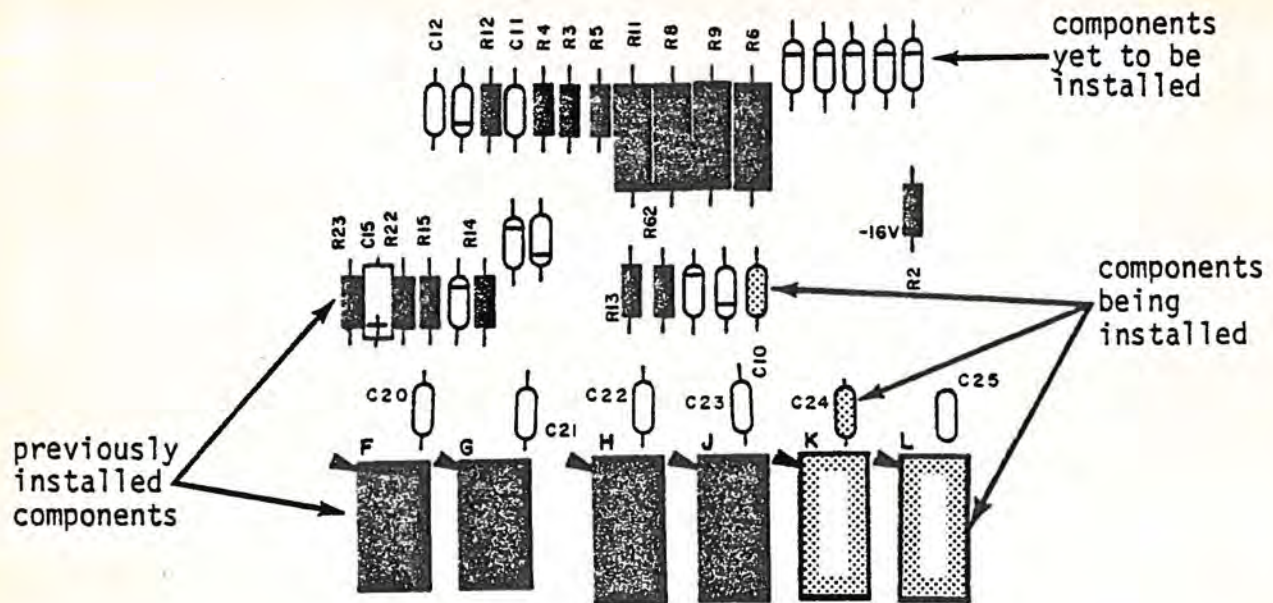

Figure 5-1 Typical Silk Screen
This manual includes two aids to help organize the assembly process: (1) boxed off parts identification lists in boxes with spaces provided to check off components as they are installed; (2) reproductions of board silkscreens showing previously installed components (black), components currently being installed (screened) and components yet to be installed (white). Figure 5-1 is an example of a typical silkscreen.